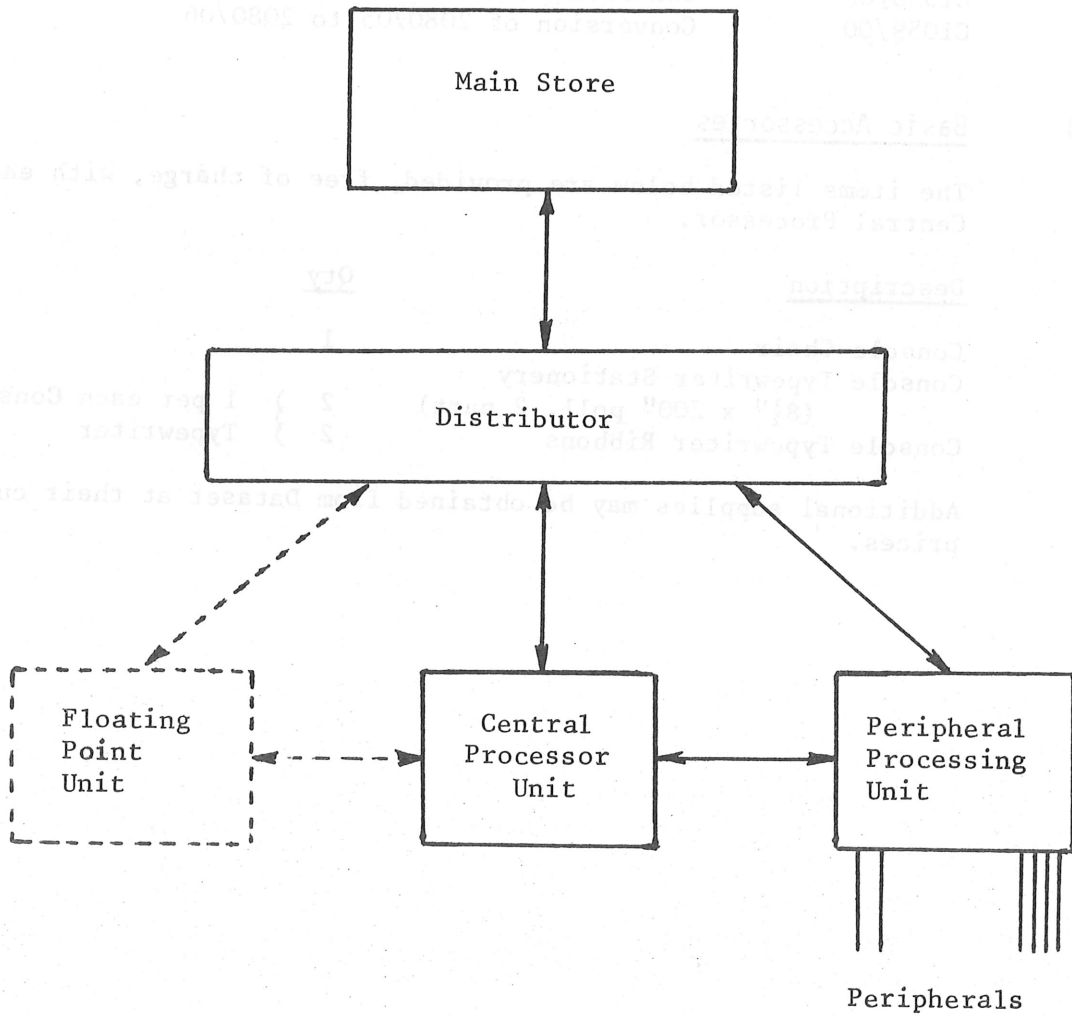

FIGURE 1 Logical structure of 1906A
The Central Processor Unit, Peripheral Processing Unit and Floating Point Unit (if fitted) are connected to Main Store via a Distributor, see Figure 1.
5.1.1 The 1906A comprises a Central Processor Unit (CPU), a Peripheral Processor Unit (PPU) and, if fitted, an optional hardware Floating Point Unit (FPU). All of these units have direct access to main store through a distributor; see Fig. 1. The CPU controls the overall operation of the system and initiates the independent autonomous activities of the PPU and FPU.